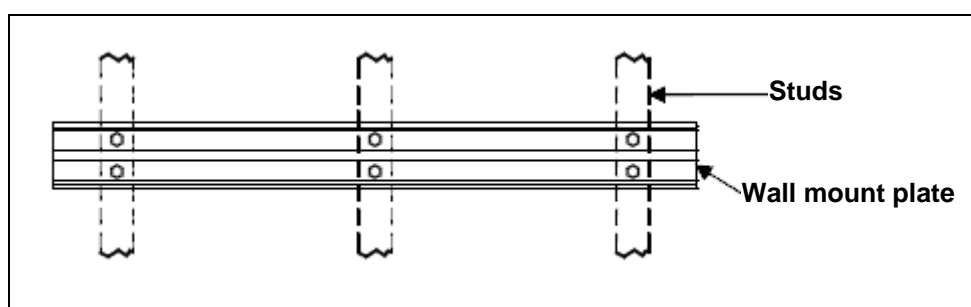

Figure 6
- ◆ The Wall Mount Adaptor may be installed on either a concrete wall or wood-framed wall. For wood, the Wall Mount Adaptor must be attached to a minimum of three (3) 2 X 3 studs. DO NOT attempt to install the wall mount on less than three (3) studs (see **Figure 6**).